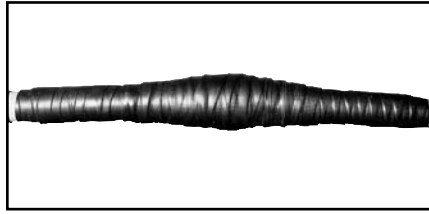

Figure 14
2. The insulating tape should be applied half-lapped, introducing uniform stretch as specified by the tape manufacturer. (Figure 14)